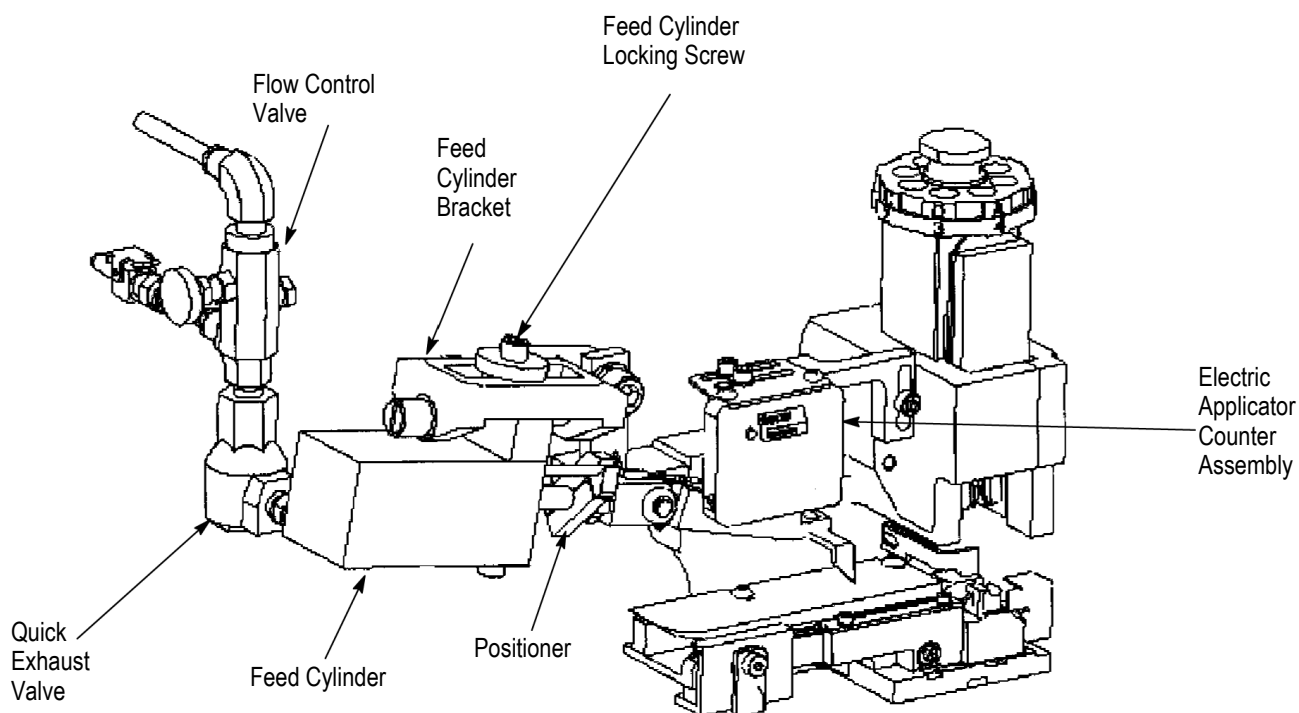
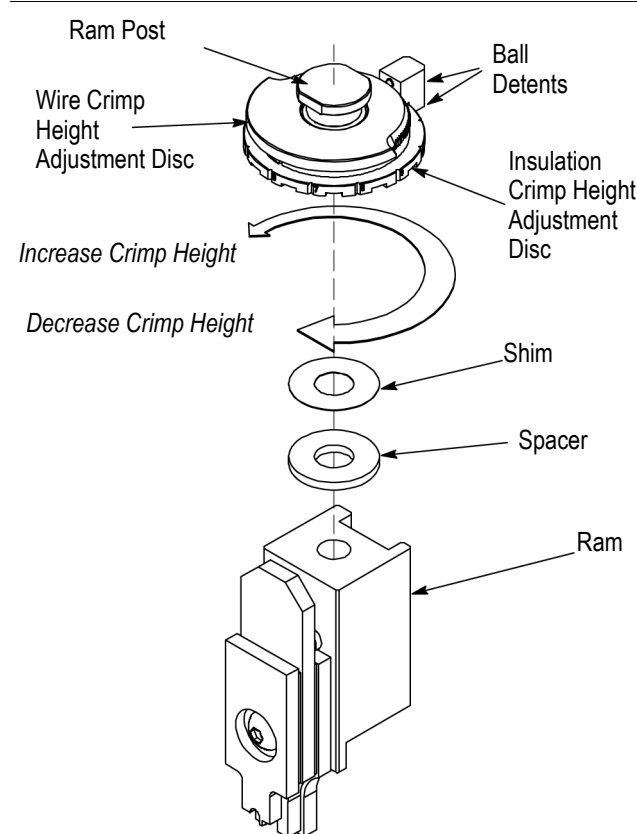

Figure 4
Figure 5
b. Applicator with air-feed systems (Figure 4) -
- 1) Loosen slightly the feed cylinder locking screw on top of feed cylinder bracket (see Figure 4).
Fine Adjust Assembly 879103-[] is factory installed and should require no further adjustment. If the assembly must be removed from the ram, be sure to loosen ram post locking set screw (Figure 4). The ram post can then be removed. Upon re-assembly, be sure that the two ball detents on the fine adjust assembly are aligned with the centerline of the insulation crimper and oriented relative to the front of the tooling (as shown in Figure 5). Ensure that the correct spacer (as per the appropriate applicator log) is re-assembled. Be sure that the ram post and ram post locking set screw